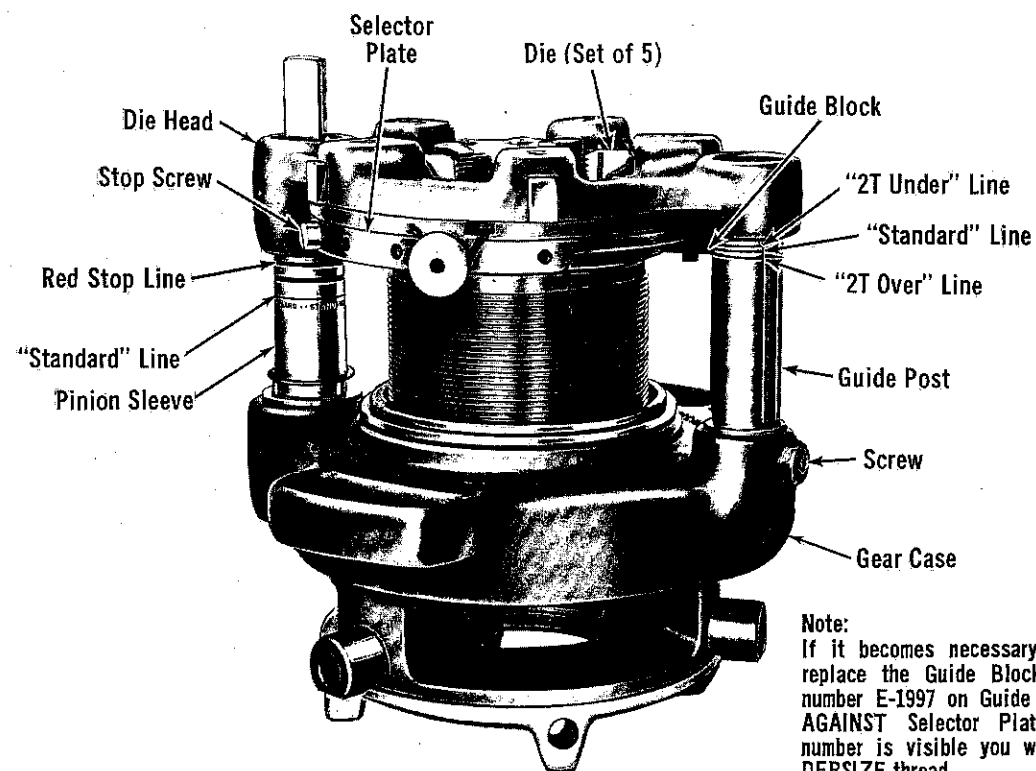

Figure 16. No. 141 Geared Threader showing Pinion Sleeve and Guide Post Reference Lines.
- 141 and 161** - Release Foot Switch when red "STOP" line appears on Pinion Sleeve (Fig. 16).
141 and 161 - Release Foot Switch when red "STOP" line appears on Pinion Sleeve (Fig. 16).
Grasp Workholder and turn square end of Drive Shaft or turn Gear Case by hand to respective reference lines on Guide Post (Fig. 16).
Changing Guide Post for Straight or Tapered Threads (Fig. 16)
1. Remove Stop Screw (Fig. 16) from Selector Plate.
3. Remove worn set of Dies (Fig. 16) and insert new set of Dies.